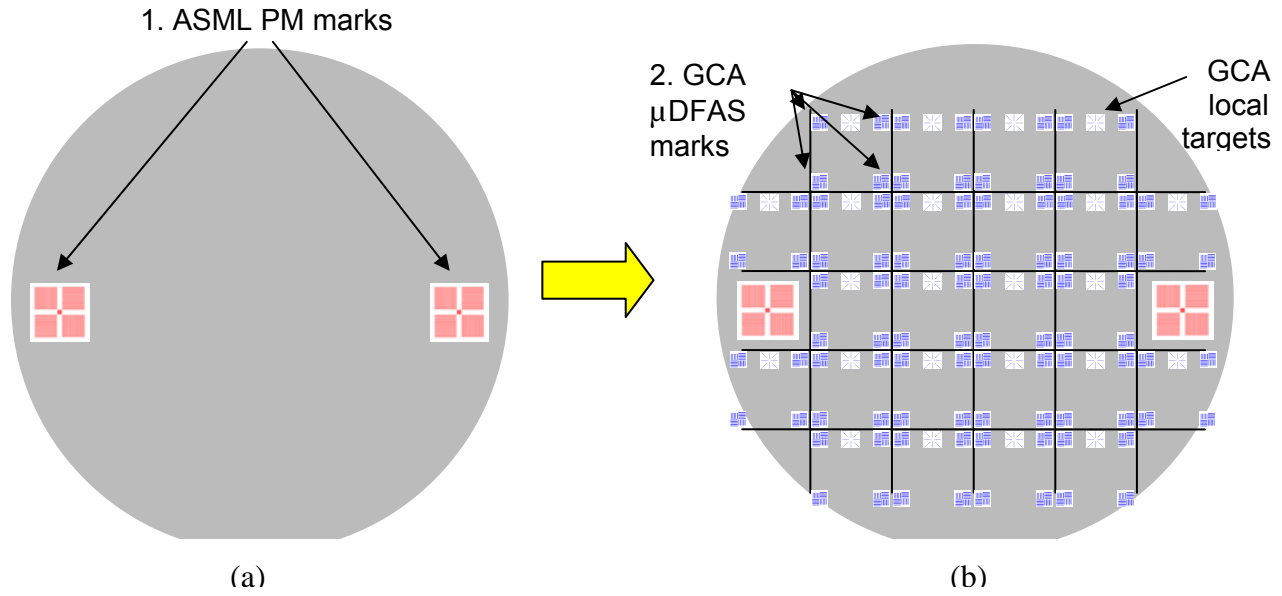

Figure 3 - ASML PM Marks and GCA Global Alignment/ μ DFAS Targets
2. The ASML PM marks were then etched (Figure 3) into the substrate for consequent ASML layer alignment and for printing the Mix&Match zero layer.